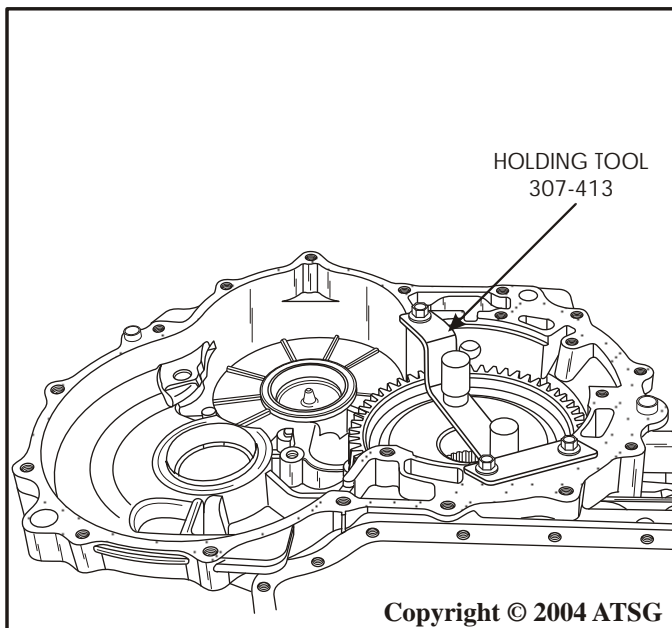

Figure 110
1. Rotate transaxle case in the fixture, as shown in Figure 110.
2. Secure the final drive input gear assembly, by installing the final drive input gear holding tool 307-413, as shown in Figure 110.
3. Lock the final drive input gear into position using the pins on the tool that go into holes in the input gear (See Figure 110).